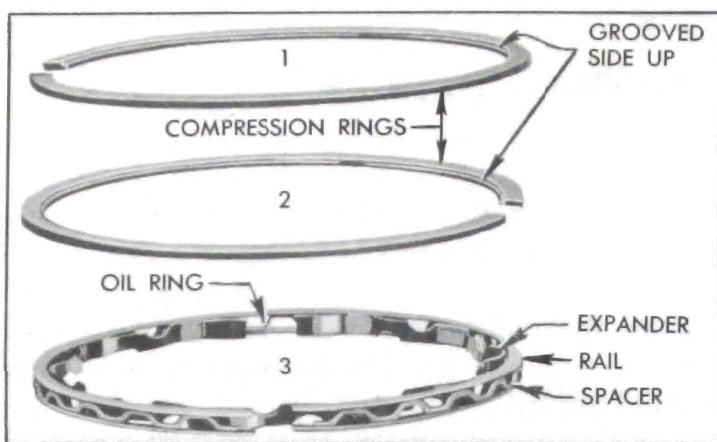

Figure 2-37—Compression and Oil Rings
7. Remove oil rings if they are the flexible first type, then remove compression rings using Ring Expander KMO-232. If oil rings are the second type, remove the two rails, spacer, and expander which are separate pieces in each piston third groove. See figure 2-37.
or beveled side of each ring toward top of piston. See figure 2-37.